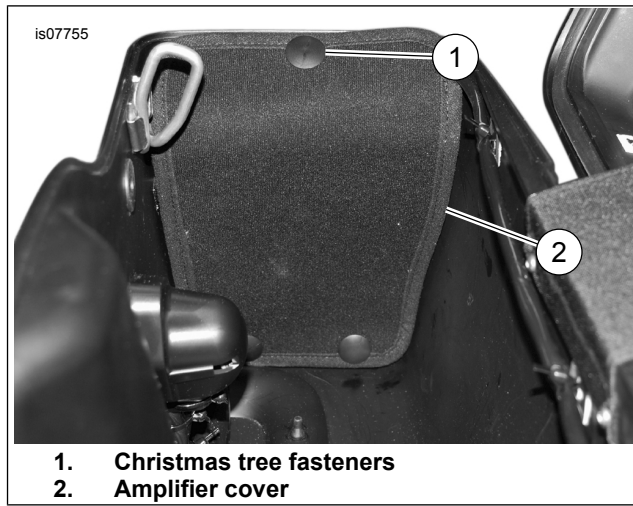

Figure 10. Amplifier Cover
11. See Figure 10. Install the amplifier cover (2) on the bracket. Secure with three christmas tree fasteners (1).